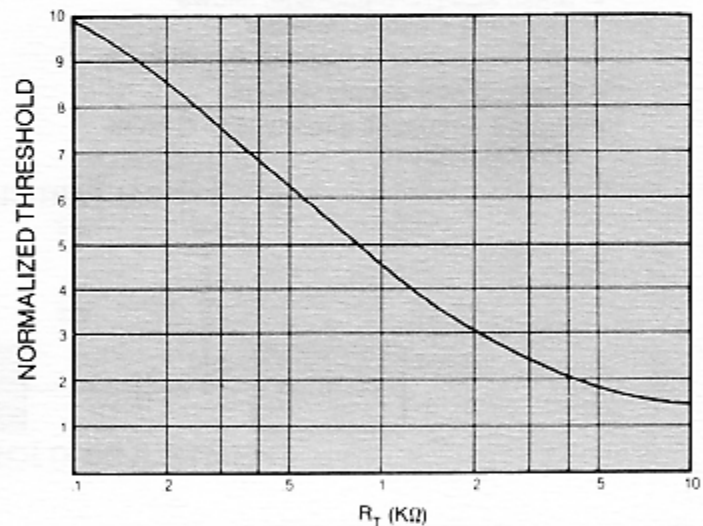

Figure 1 — Threshold vs. R_T
- THRESHOLD:** Model A-111 has a nominal threshold referred to the input of 8×10^{-15} coulomb. This is equivalent to 5×10^4 electrons. The threshold can be increased by the addition of a resistor between Pins 7 and 8. Shorting these Pins together produces the maximum increase (approximately 10X). See Figure 1.
- 2) Pin 7 provides a positive analog pulse output from the preamplifier section just prior to the discriminator with a rise time of about 100ns. See photo above. At maximum sensitivity (no feedback resistor between Pins 7 and 8) the amplitude of this pulse is proportional to the input charge, $A = 2.5$ V/pC. At threshold this will correspond to a 20 mV pulse. If a feedback resistor is used between Pins 7 and 8, the size of the analog pulse will be divided by the same threshold attenuation factor the feedback resistor produced (Figure 1.) Example: If a 3k Ω feedback resistor is used, the size of the analog pulse will be 1 V/pC. This output must be capacitively coupled to external circuitry and can be used to perform pulse height analysis. Near threshold, however, the shape of the analog pulse will be effected by the firing of the discriminator.
The A-111 will respond to a negative pulse of 8×10^{-15} coulombs or greater. The threshold may be increased by the connection of a resistor between Pins 7 & 8. Approximate values are given in Figure 1.